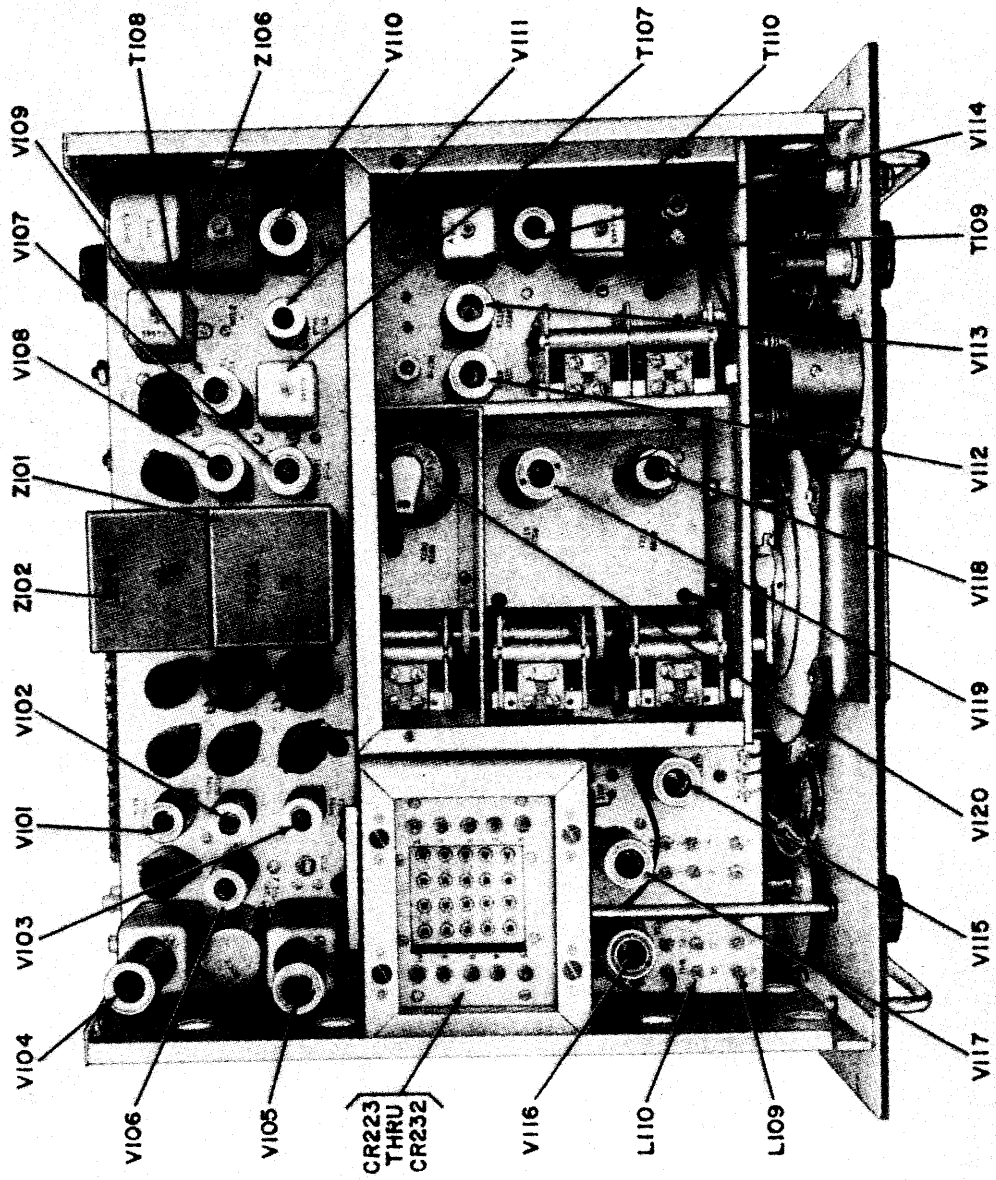

Figure 5-2. Location Diagram of Major Electronic Equipment Components, Top View
b. LOCATION DATA. - Figures 5-2 and 5-3 are photographs showing the major electronic equipment elements of the SBE-2.